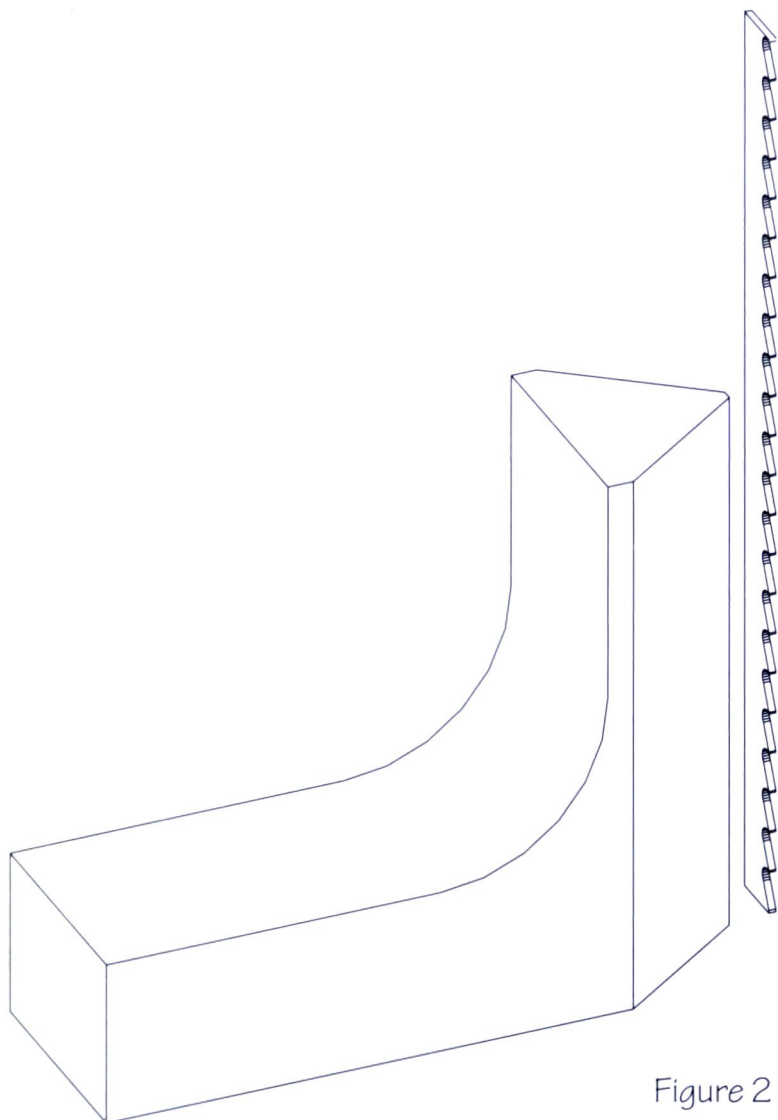

Figure 2
2. Resaw the cedar with a band saw. A $\frac{1}{2}$ ", 3-tooth hook blade works best. In fact, I keep this blade on my machine all the time. If you do not have one, make yourself a resaw guide, as shown in figure 2. Clamp the guide to your band saw table so that the pointed edge of the guide is even with the front of the blade teeth. Since the band saw blade is flexible, it can twist slightly while cutting. A difference in the way the teeth are sharpened from one side of the blade to the other, or changing grain patterns in the wood, can cause the blade to tend to cut to the right or the left. The very short fence of the resaw guide allows you to change your angle of feed to keep the blade cutting in the center of your stock, even if the blade wants to lead one way or the other.
4. Make a simple jig from scraps to establish the border of an 18" square, as shown in photo 7, where I have clamped some pieces and nailed others to my work table. Begin cutting the top slats with the fourth top slats (F), by mitering them to a point. Put them in opposite corners of your jig.